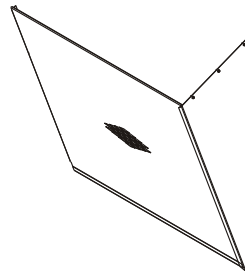

Figure 3
Open clip-locks on Hail Guard Left and Right Panels (C & D) and position next to Mesh (B). Close clip locks onto mesh flange attaching mesh to side panels. See Figure 3.